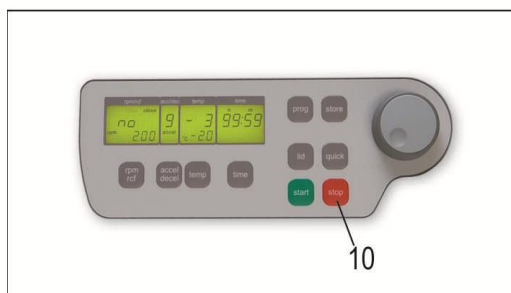

Figure 29
With the "stop" key (10), the run time can be interrupted, at any time, (see Figure 29). After pressing the key, the centrifuge decelerates with the respective pre-selected intensity, down to a standstill.